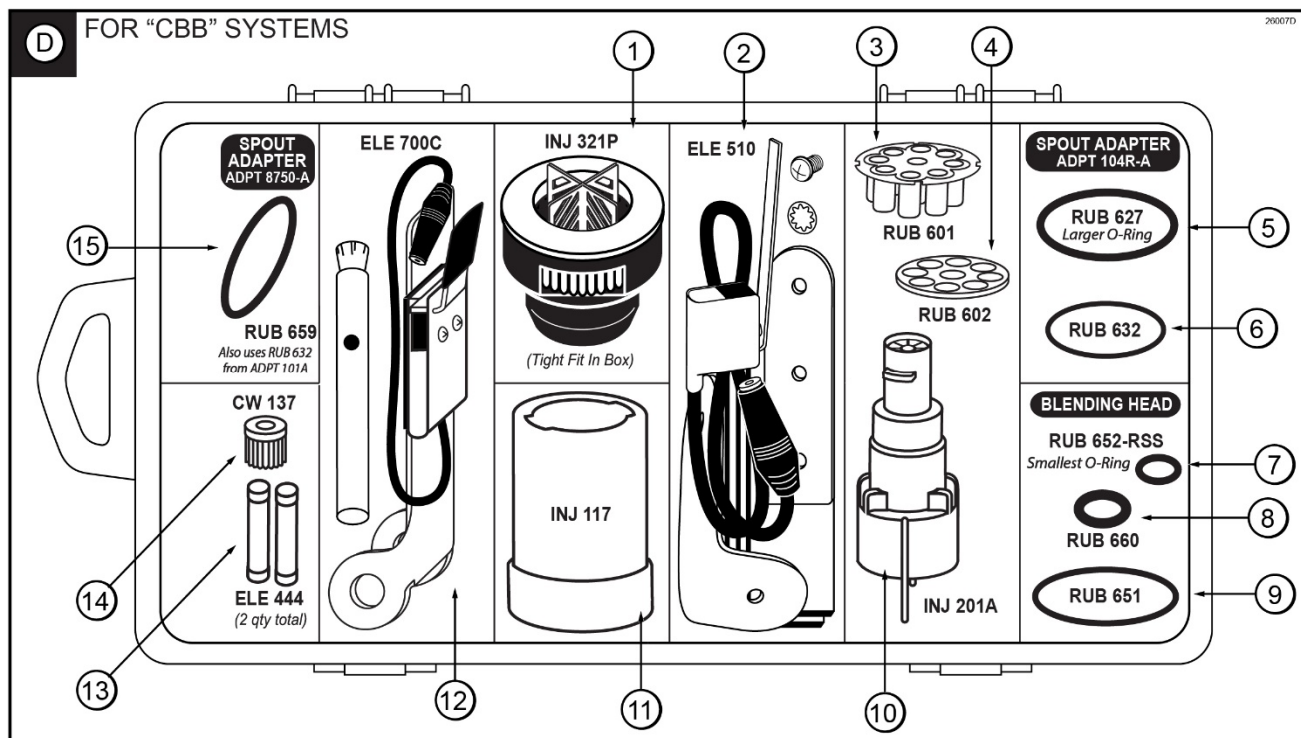

Figure 8D
**“CBB” Spare Parts Kit (See Figure 8D)**